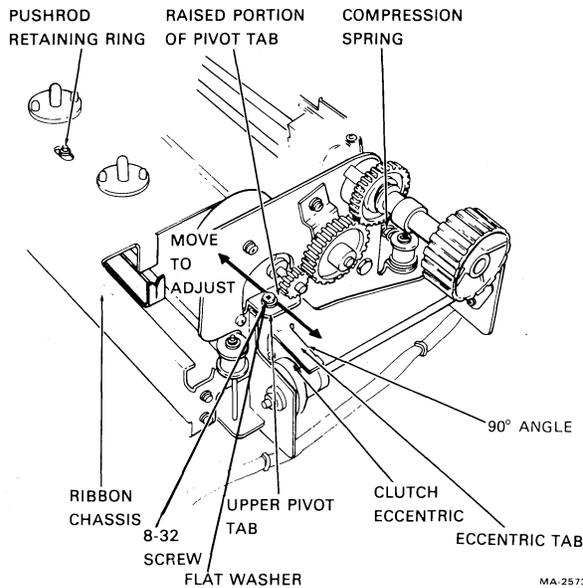

Fig. 8-Ribbon Drive Assembly (Detailed View)
- (d) Slide the upper pivot under the pivot tab on the side plate and secure it with the 8-32 screw, flat washer. Make the screw finger tight (Figure 8).
Note: The eccentric tab should be bent at a 90 degree angle (Figure 8) when viewed from the left side of the unit. If the angle is not at 90 degrees, bend it to the correct angle. This is done to prevent the tab from touching the spring.